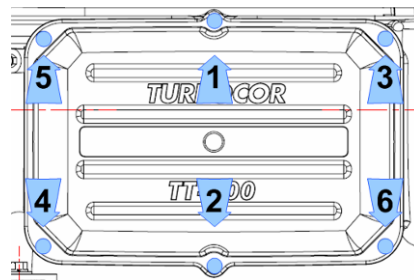

Figure 14 – Service Cover Install
- Place the new service side cover and secure it with the six (6) M5x15 screws according to the sequence shown in Figure 14 – Service Cover Install.